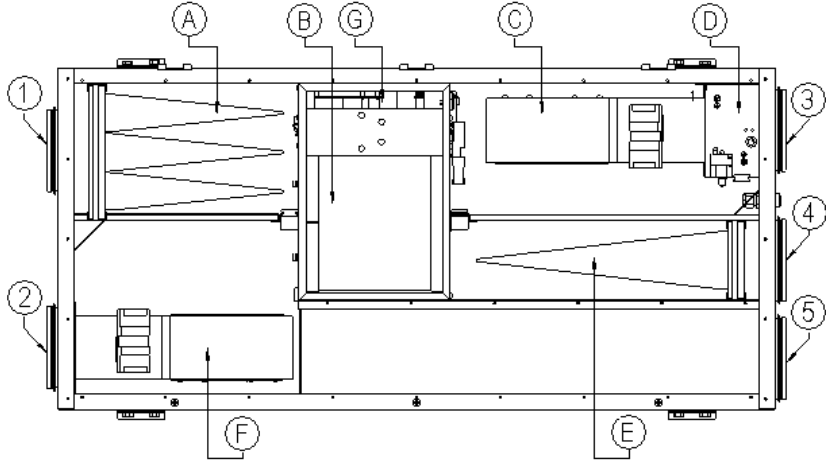

Fig. 1
Lamp signal (11) comes on when set operation time between changing of air filters (pos. A & E, **fig. 1**) has expired. The ventilation unit can still be operated, but the efficiency will be reduced if the filter is not replaced. Operation time (6, 9 or 12 months) between filter changes can be set on the control panel (see installation instructions). From factory, operation time is set to 9 months. Reset operation time after having changed the filter (see "Maintenance").